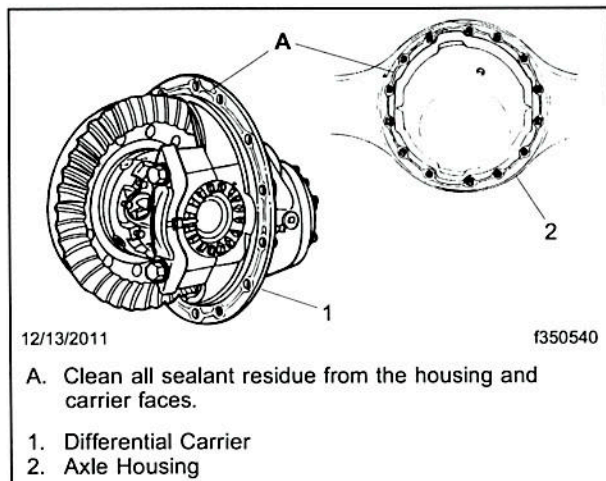

Fig. 5, Residual Sealant on Housing and Carrier
1. Use a rotary tool with a scour pad to clean all silicone residue from the housing and carrier faces. See Fig. 5. Surfaces must be clean, dry, and free of foreign matter. The surfaces must not be oily to the touch.